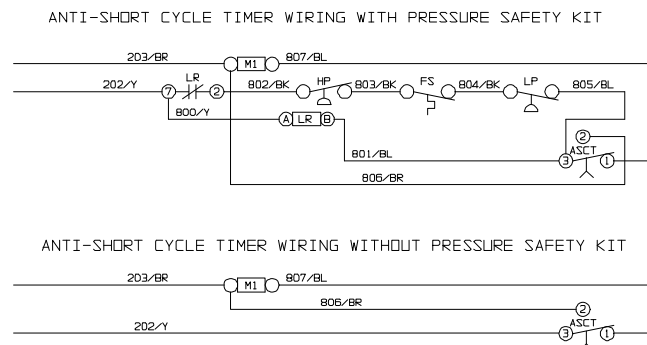

FIGURE 2 - ANTI-RECYCLE TIMER KIT WIRING DIAGRAM
4. Connect wiring to the timer control per the following procedure. Refer to Figure 2 for interconnecting timer wiring.